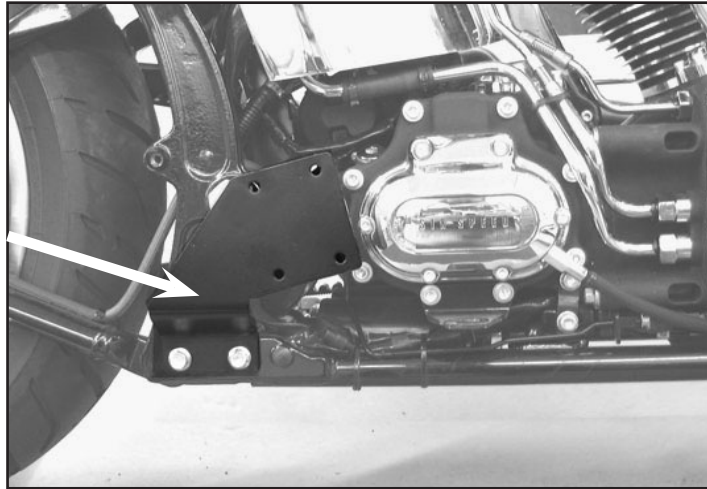

FIGURE 2
3. Lay head pipes into head pipe heat shields (**Figure 2**) and loosely install the #20 hose clamps (supplied) into mounting clips (**Figure 3**). **NOTE:** Screw head should be accessible when system is installed on motorcycle for adjustment purposes (**Figure 4**). Do not tighten at this time.